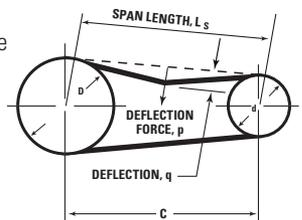

Figure 2
1. Measure the span length of the drive. (See Fig. 2). Set the large "O" ring at $1/64$ " for each inch of belt span. For example, set the large "O" ring $1/4$ " for a span length of 16," at $1/2$ " for a span length of 32," at 1" for a span length of 64," etc.